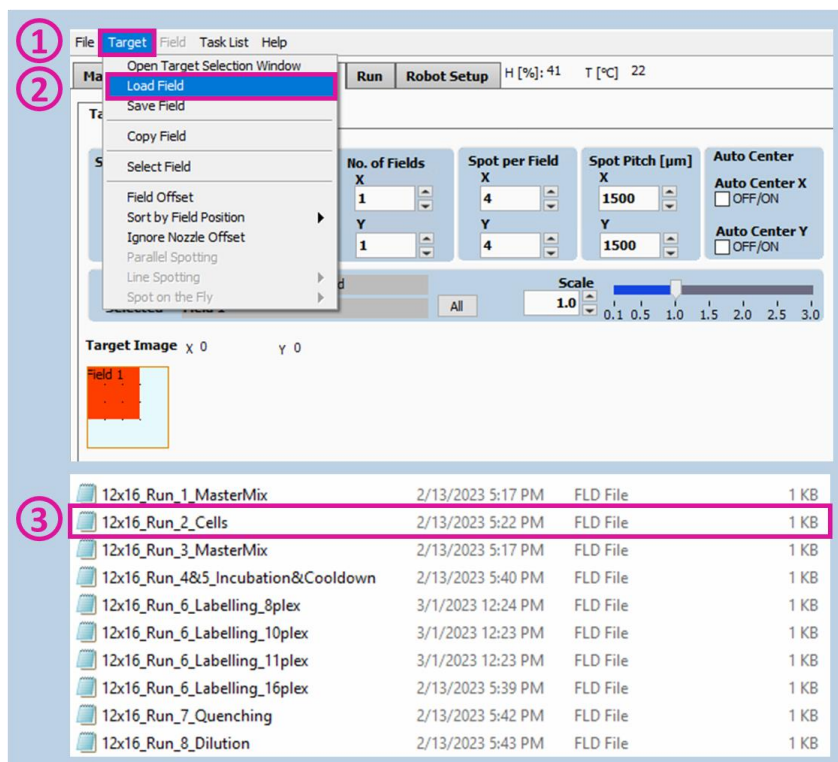
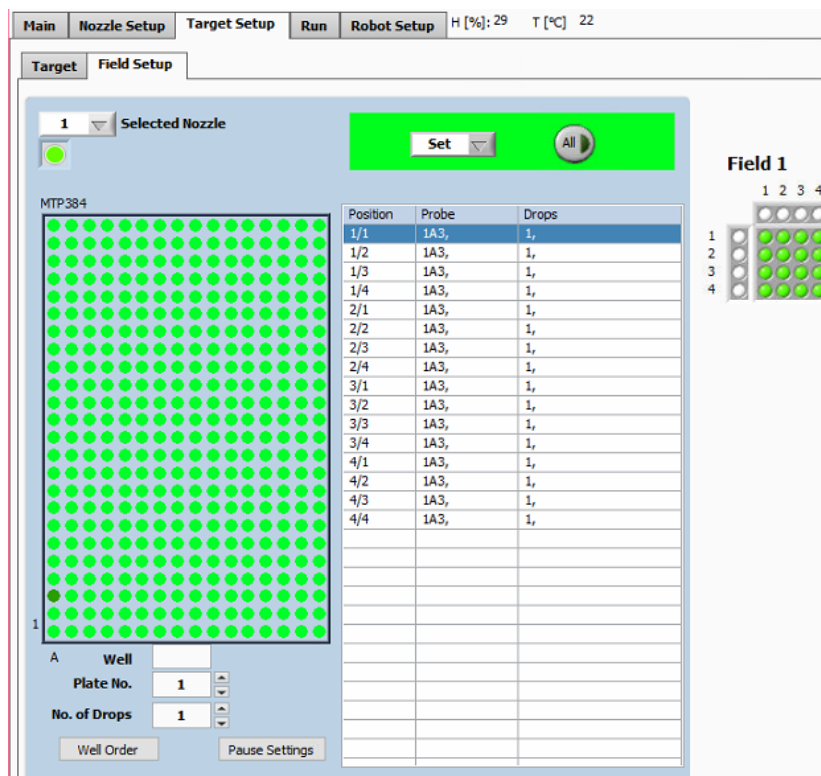

Figure 16: Load Field for cell isolation
Figure 17: Field Setup for cell isolation
Load the field “12x16_Run_2_Cells” which will spot one drop per well (which equals to one cell per well). To load the field, click in “Target” (Figure 16 ①) >> “Load Field” (Figure 16 ②) and select the field corresponding to the run (Figure 16 ③, Figure 17).